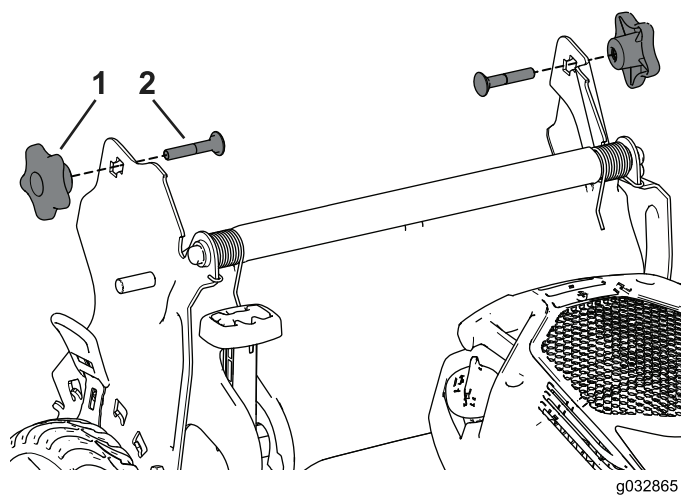

Figure 28
- Insert the carriage bolt (with the bolt head toward the inside) through the handle bracket and the upper hole in the handle end. Ensure that the square edges of each carriage bolt fits into the upper or lower square hole in its related handle bracket (Figure 28).